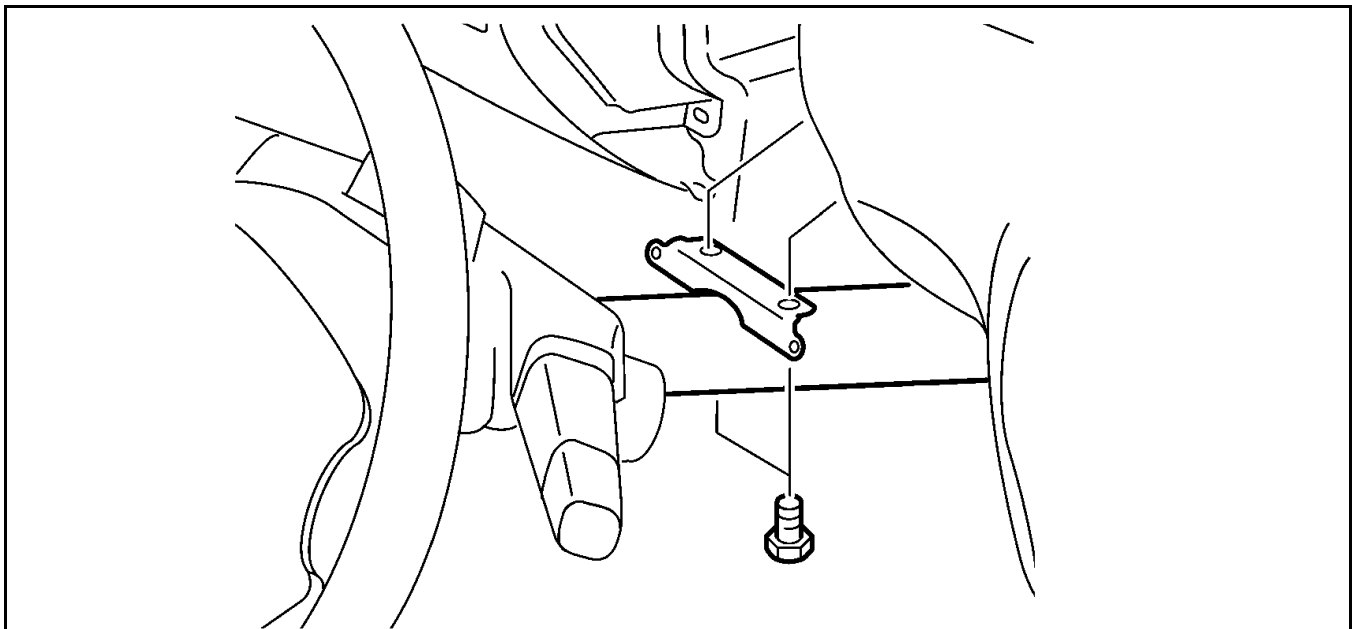

Figure 240 Raising the Steering Column and Reinstalling Bracket Bolts
10. Ensure all connectors on the back of Fuse Block No.1 are tight. Gently raise the steering column and reinstall the column bracket bolts (Figure 240). Tighten the bolts to 25 Nm (18 lb.ft).